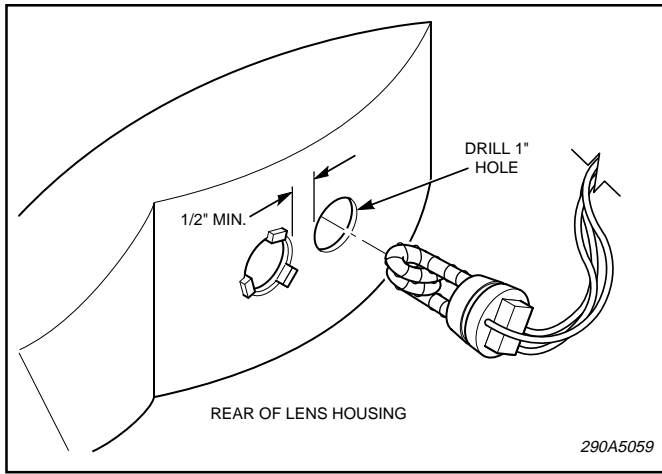

Figure 1.
2. See figure 1. Locate a suitable mounting location for the strobe tube on the reflector housing. To ensure a full flash pattern on the reflector housing lens, the mounting location should be flat and as close to the reflector's focal point as possible without interfering with any lamp(s) installed in the housing.